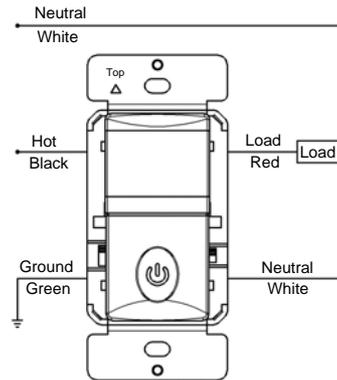

Figure 2
1. Connect lead wires as shown in wiring diagram (see Figure 2): Black lead to hot wire, red lead to load wire, white lead to neutral wire, green lead to ground wire.